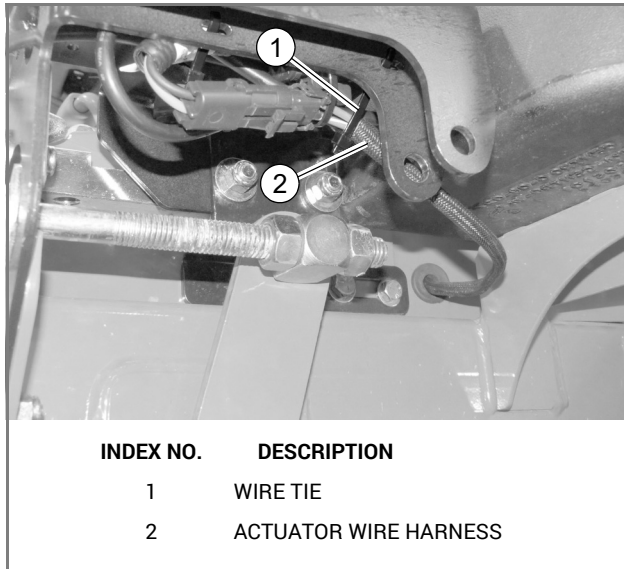

FIG. 20
38. Connect the actuator's wire harness to the provided wire harness adapter and then to the frame cover harness pigtail. FIG. 20